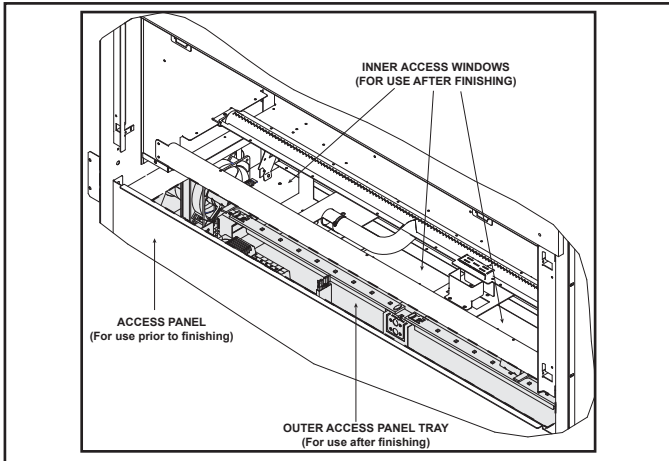

Figure 9.2 Gas and Electrical Access
The lower access cover panel is removable if finishing material is not installed. See Figure 9.2.
6. There are three access windows located on the interior of the firebox bottom. See Figure 9.2. Remove screws and plate to access the manual shutoff valve included with this fireplace.
2. Remove the base pan. It is attached with 14 screws to the interior firebox bottom and with 19 screws to the burner assembly. If your appliance is a model that has the glass rock media, you must also remove the pilot shield cover at this time. See Figure 9.2 and Figure 9.3.
4. Remove access panel covers or glass windows, along with gaskets. Gaskets may be fragile. Handle with care. See Figure 9.2.